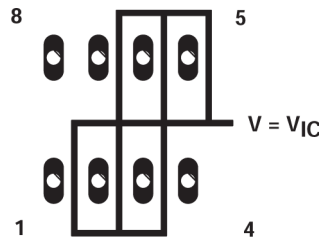
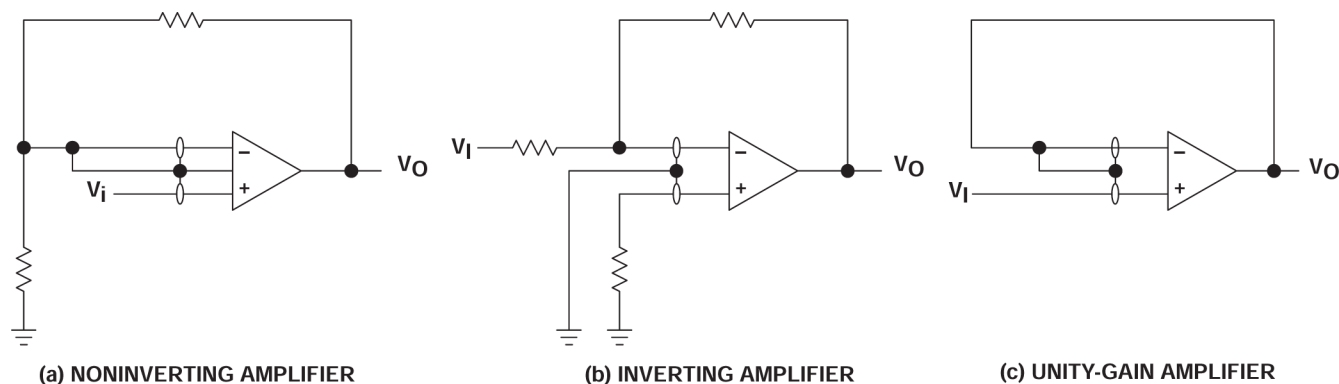

Figure 6-4. Isolation Metal Around Device Inputs (P Package)
Figure 7-4. Guard-Ring Schemes
- Isolate the device from other potential leakage sources. Use a grounded shield around and between the device inputs (see Figure 6-4). Leakages that can otherwise flow to the inputs are shunted away.
Because of the extremely high input impedance and resulting low bias-current requirements, the TLV232x is an excellent choice for low-level signal processing. However, leakage currents on printed-circuit boards and sockets sometimes easily exceed bias-current requirements and cause a degradation in device performance. As best practice, include guard rings around inputs (similar to those of Figure 6-4 in the *Parameter Measurement Information* section). Drive these guards from a low-impedance source at the same voltage level as the common-mode input (see Figure 7-4).